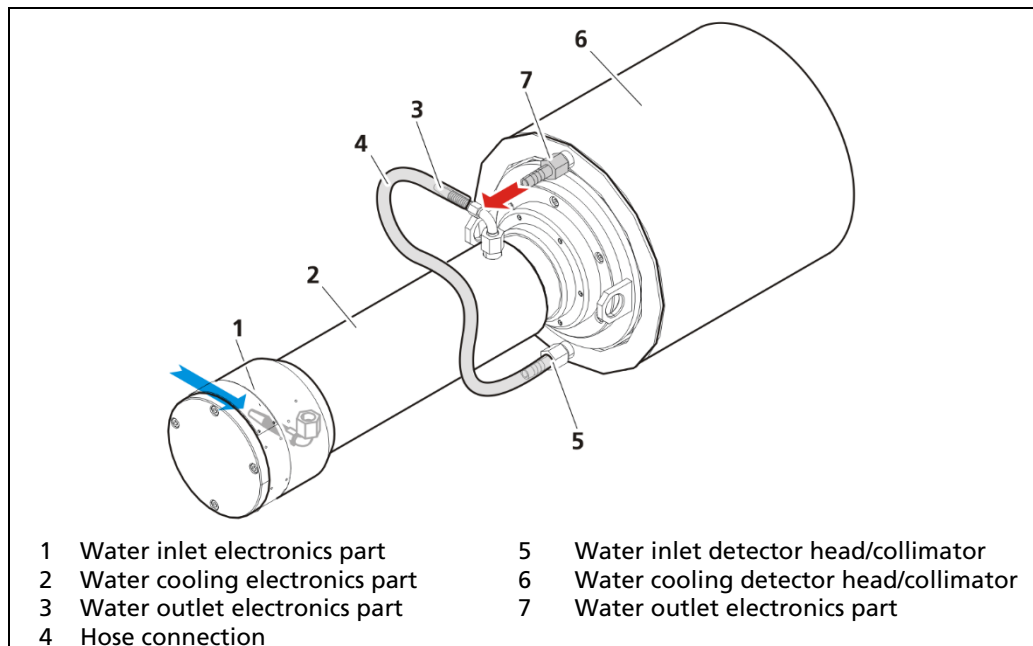

Fig. 59 Water Cooling Installation
1. Slide the water cooling system (Fig. 59, item 6) with the connection nozzles pointing forward towards the terminal compartment.
If the detector is mounted horizontally, the bottom connector (Fig. 59, item 5) must be used as a water supply.